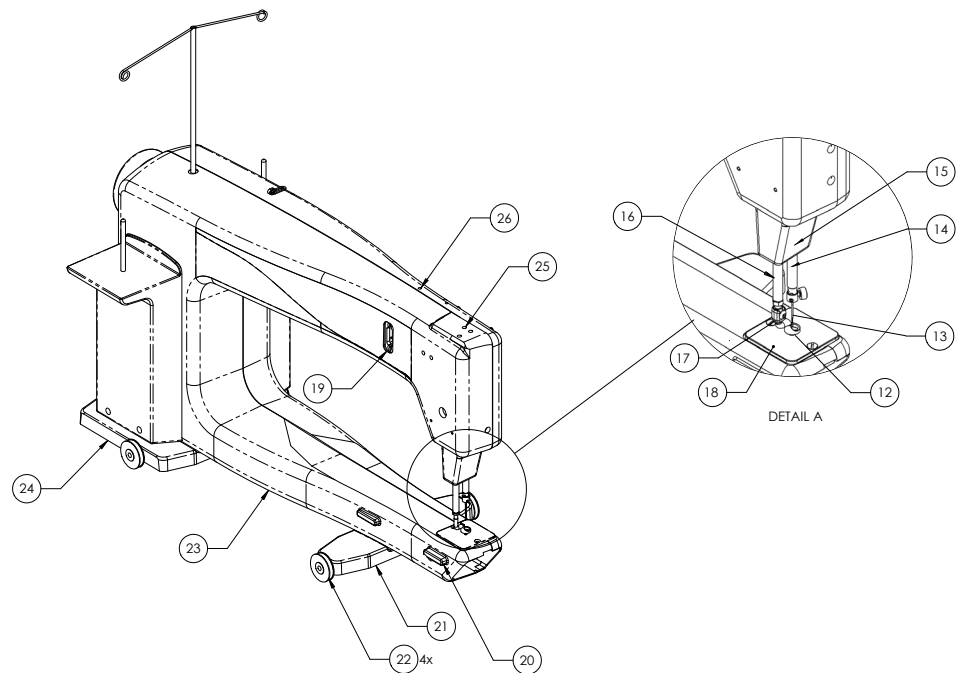

Figure 2
Use the included 5 mm Hex wrench to securely fasten the handles to the front of the machine. Once the bolts are in place, plug the 9-pin connector into the serial port located on the left-hand side of the machine (see Figure 2, #18, page 6). Ensure the pins are lined up so they are not damaged when the plug is pushed in. Push the plug securely in place.
1. Locate the threaded hole on top of the machine near the front (see Figure 2, #20, page 6). The laser stylus guide post comes with the washer and nut